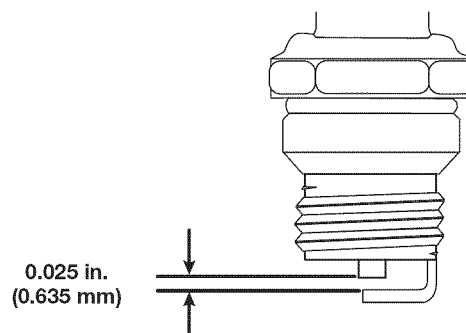

Fig. 28
6. Use a feeler gauge to set the air gap at **0.025 in. (0.635 mm)** (Fig. 28).